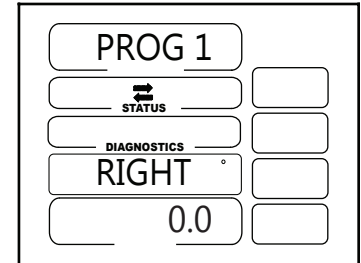

Figure 19-1
11. Control panel display will look similar to figure 19-1. PROG 1 will change according to the programmed sector being added or modified.